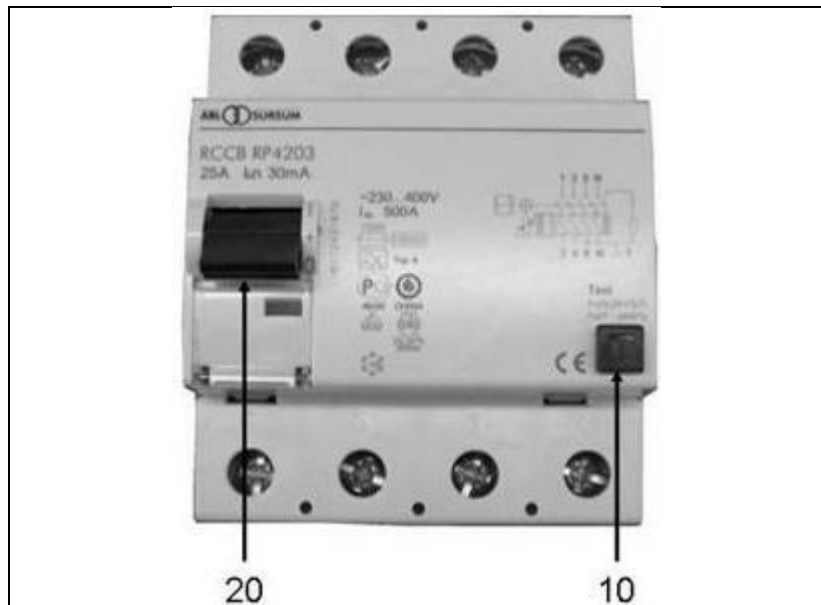

Figure 4-7: FI protection switch
3. Additionally, every work day, the user must check the mechanical operation of the release by activating the test button (see *unterhalb Figure 4-7-(10)*) on the residual current protection device (RCD).
2. Put the protection switch (see Figure 4-7-(20)) into position 1.
3. Activate the test switch (see Figure 4-7-(10)).
- ✓ The switch position displays the result (see Figure 4-7-(20)):